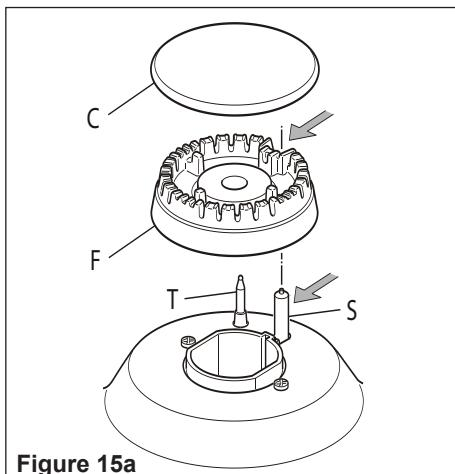

Figure 15a
- Check that the electrode/s "S" (figs. 15a, 15c, 15d, 15e) next to each burner is/are always clean to ensure trouble-free sparking.
- Check that the probe/s "T" (figs. 15a, 15c, 15d, 15e) next to each burner is/are always clean to ensure correct operation of the safety valves.
It is very important to check that the burner flame spreader "F" and the cap "C" have been correctly positioned (see figs. 15a and 15b). Failure to do so can cause serious problems.